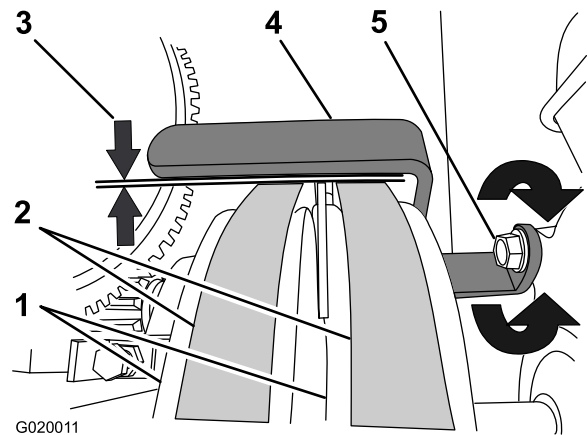

Figure 60
3. Check that the air gap between the belt guide and the belts is 2.5 to 4.0 mm (3/32 to 5/32 inch); refer to Figure 60.
- A. Loosen the bolt that secures the belt guide to the engine (Figure 60).
- B. Rotate the belt guide up or down until there is an air gap of 2.5 to 4.0 mm (3/32 to 5/32 inch) between the guide and each belt (Figure 60).
- C. Tighten the bolt that secures the belt guide to the engine (Figure 60).